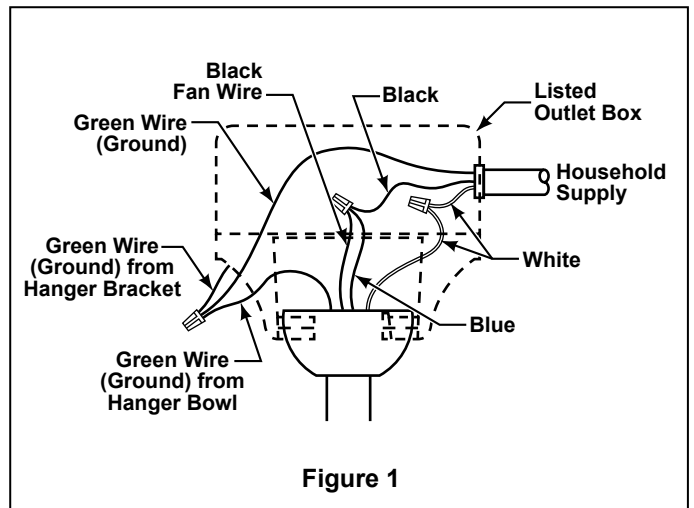

Figure 1
5. Reinstall the Hanger Ball (Figure 1) on the Downrod as follows. Route the three 80" wires and cable through the Hanger Ball. Position the Pin through the two holes in the Downrod and align the Hanger Ball so the Pin is captured in the groove in the top of the Hanger Ball. Pull the Hanger Ball up tight against the pin. **Securely tighten the setscrew in the Hanger Ball.** A loose setscrew could create fan wobble.
The fan must be hung with at least 7' of clearance from floor to blades (Figure 1)
2. Securely connect the white fan motor wire to the white supply (neutral) wire using wire connector supplied. Securely connect the black fan motor wire and blue wire to the black supply wire using wire connector supplied (Figure 1).
3. Tighten three screws, don't over-tighten. (Figure 1)